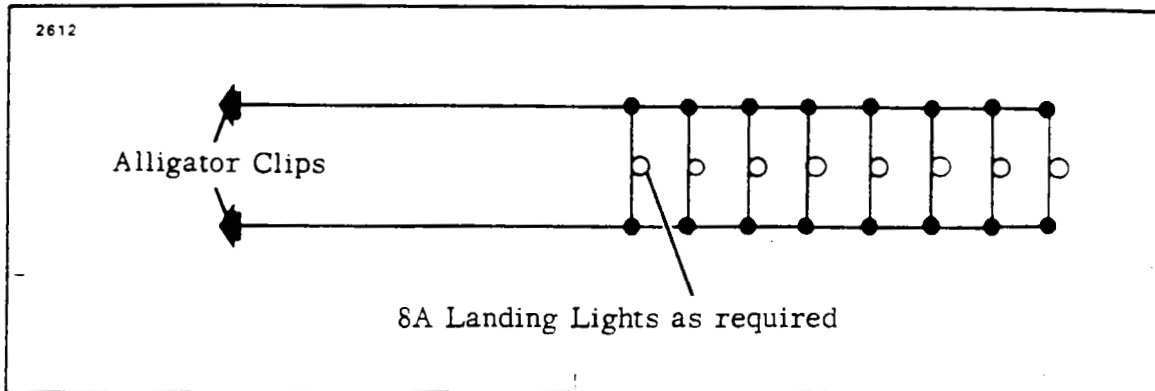

Figure 10-3. Lamp-Bank Load
- d. Additional loads may be simulated by adding landing lights (8.0 amps per light) from the bus bar to the aircraft ground. (Refer to Figure 10-3.)